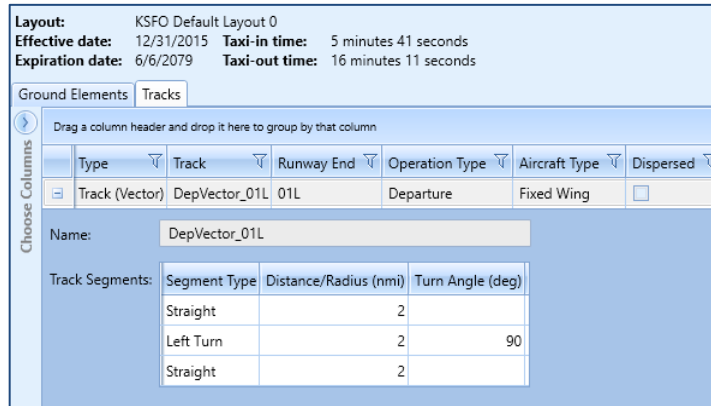

Figure 10. Vector Track Details
10. AEDT will add this new track to the list of Airport Layout components in the lower left-corner (Figure 10).